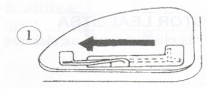

Fig 4
7.1.6. If the generator engine fails to start after several attempts, repeat above the procedures with the choke knob returned to the "OPEN" position. FIG.4